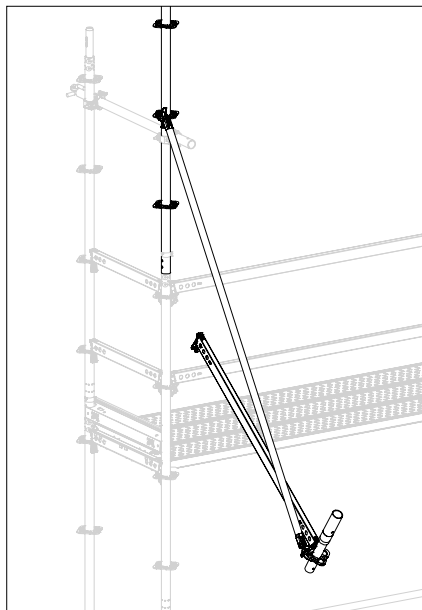

Fig. A4.03c
3. Hold the ledger at the free end and swing the other side outwards with the base standard. (Fig. A4.03c)